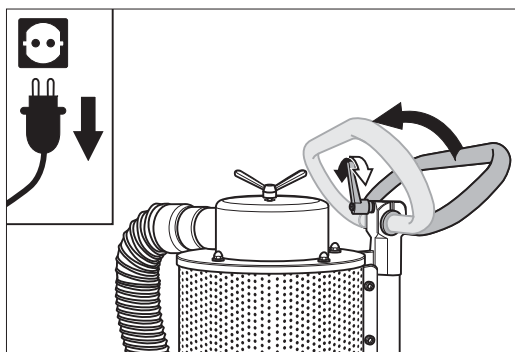

Fig. 5 To tilt the machine, release the clamping lever first and press the handle forward.
- 3 Release clamping lever of the handle, press handle forward and pull the clamping lever back into its prior position (Fig. 5).